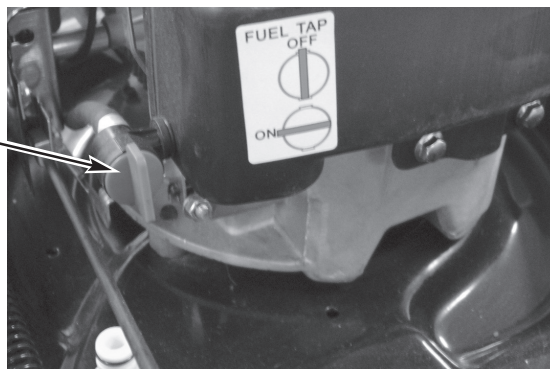

Fig. 6
2. Turn the fuel tap to the "ON" position. (Fig. 6)